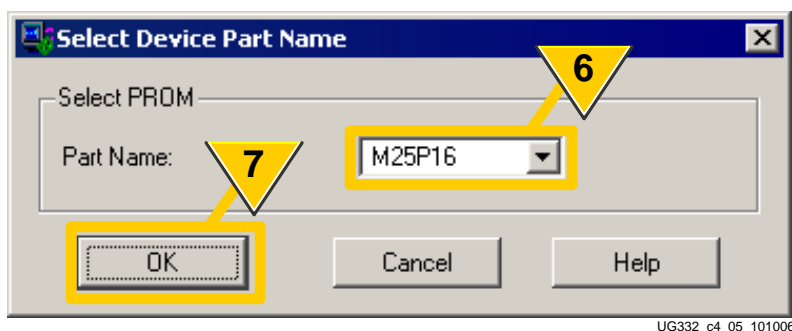

Figure 4-18: Select a Supported SPI Flash Memory Device.
6. Select the **Part Name** for a supported SPI serial Flash, as shown in Figure 4-18.